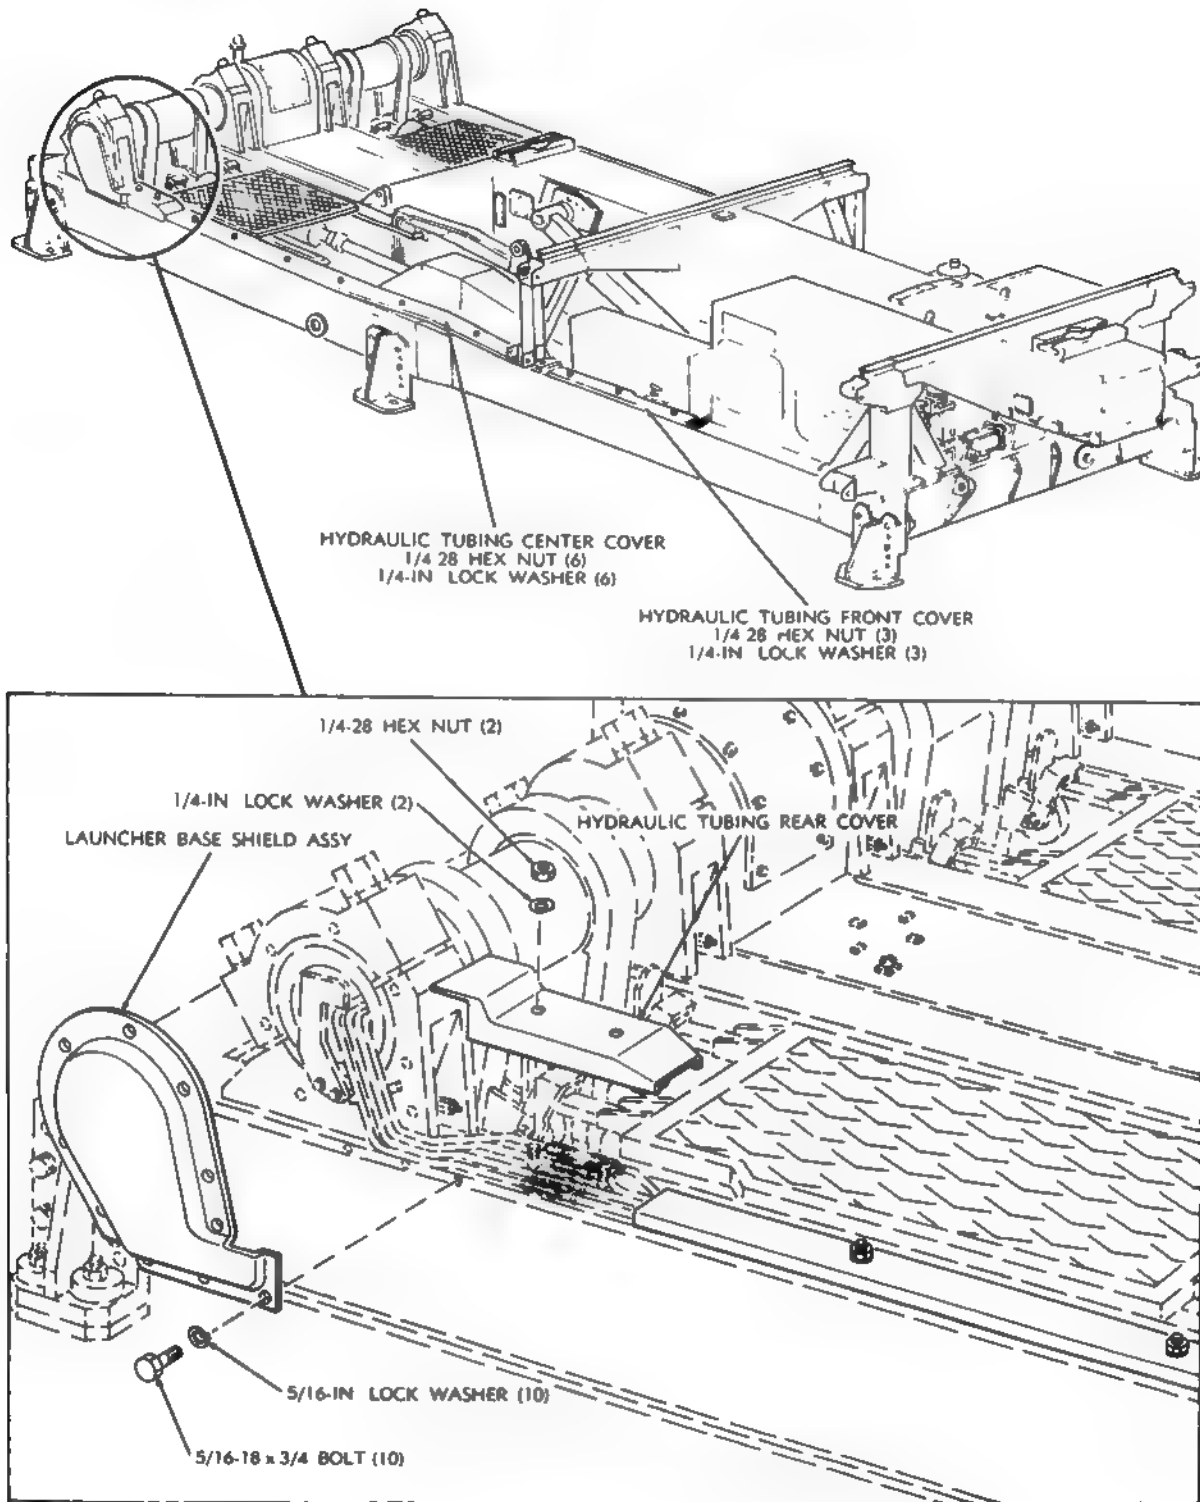

Figure 183. Launcher base hydraulic network access covers—
- (2) Depressurize the hydraulic oil reservoir by turning the handle of the plug cock to the VENT position and holding until all pressure is discharged.
- (3) Remove the erecting beam trunnion dust cover and the shield (fig. 82); remove the launcher base shield assembly and the hydraulic tubing rear cover (fig. 183).
- (9) Bleed air from lines as prescribed in paragraph 89b (2) through (3.6).
- (10) Install trunnion dust cover (fig. 82), shield, launcher base shield assembly (fig. 183), and tubing rear cover.
- (2) Depressurize hydraulic oil reservoir by turning handle of plug cock to VENT position and holding until all pressure is discharged.
- (3) Remove hydraulic tubing front cover (fig. 183), center cover, and rear cover.